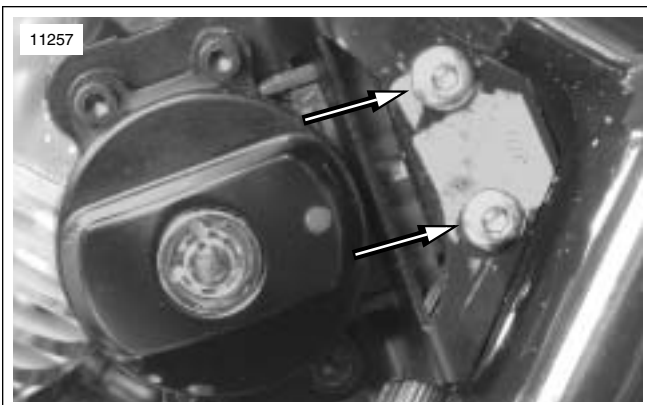

Figure 8-9. Ignition Switch Fasteners
3. See Figure 8-9. Remove fasteners and remove ignition switch from frame.
6. See Figure 8-9. Install ignition switch to frame. Secure with fasteners. Tighten fasteners to 4-7 Nm (35-62 in-lbs).